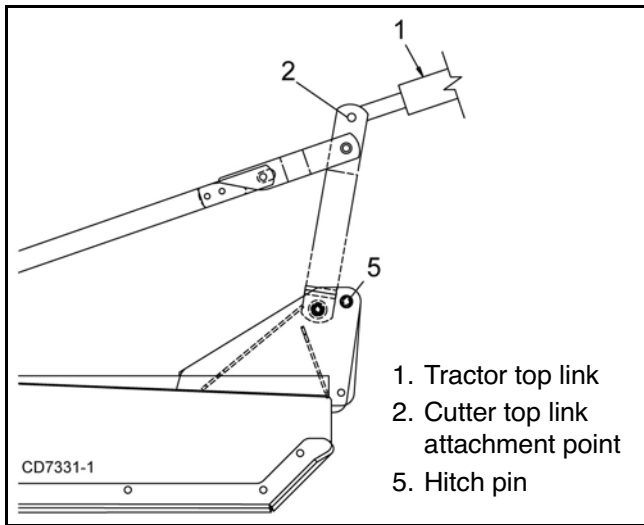

Figure 2. Cutter to Tractor Connection
1. Attach tractor 3-point lift arms to category I or category II (Cat II or Cat III for BB8400X) side of hitch pins (5) and secure. See Figure 2.
2. Attach tractor top link (1) to cutter top link attachment point (2). See Figure 2.